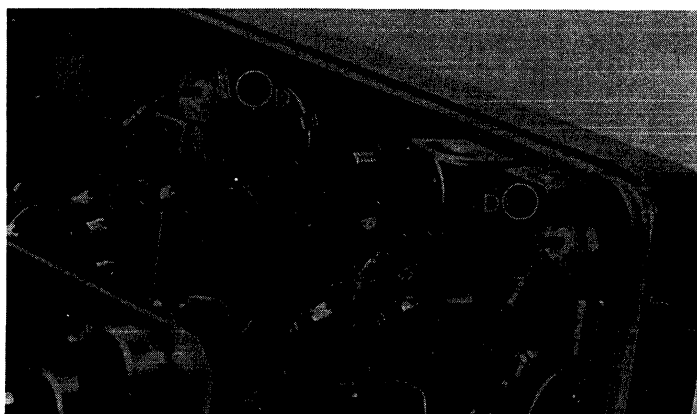

Fig. 3.17. Dismantling
- Remove two screws D (Fig. 3.17.)